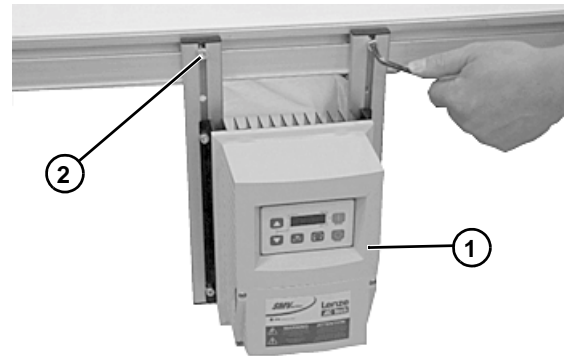

Figure 15
5. Attach controller (Figure 15, item 1) to conveyor with M6 screws (Figure 15, item 2).